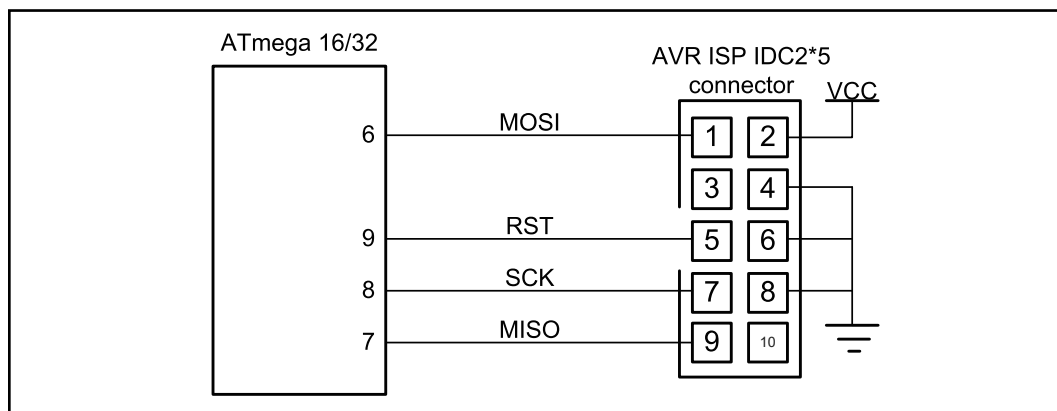

**Figure 11. ISP 10-pin Connections (See [www.Atmel.com](http://www.Atmel.com) for 6-pin version)**
2. **An in-circuit serial programmer (ISP)** allows the developer to program and debug their microcontroller while it is in the system. This is done by a few wires with a system setup to accept this configuration. In-circuit serial programming is excellent for designs that change or require periodic updating. AVR has two methods of ISP. They are SPI and JTAG. Most of the ATmega family supports both methods. The SPI uses 3 pins, one for send, one for receive, and one for clock. These pins can be used as I/O after the device is programmed. The designer must make sure that these pins do not conflict with the programmer. Notice that SPI stands for "serial peripheral interface" and is a protocol. But ISP stands for "in-circuit serial programming" and is a method of code loading. AVRISP and many other devices support ISP. To connect AVRISP to your device you also need to connect VCC, GND, and RESET pins. You must bring the pins to a header on the board so that the programmer can connect to it. Figure 11 shows the pin connections.